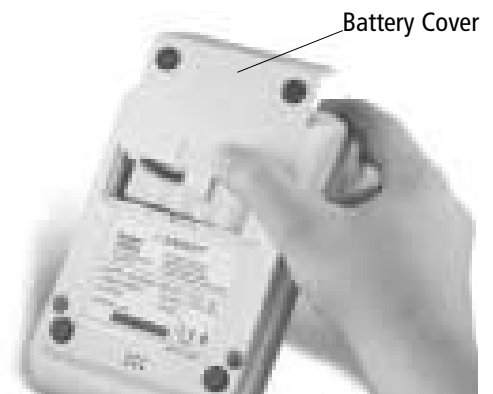

Fig. 13
2. Remove the batteries after sliding the battery cover on the back of the control unit in the direction of the arrow. (Fig. 13)